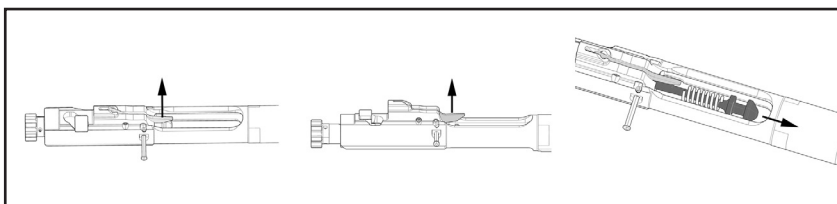

Fig. 39 – Drift out the Firing Pin Retaining Pin
d. Lift up on the spring loaded drop safety and remove the firing pin and firing pin spring (Fig. 39).